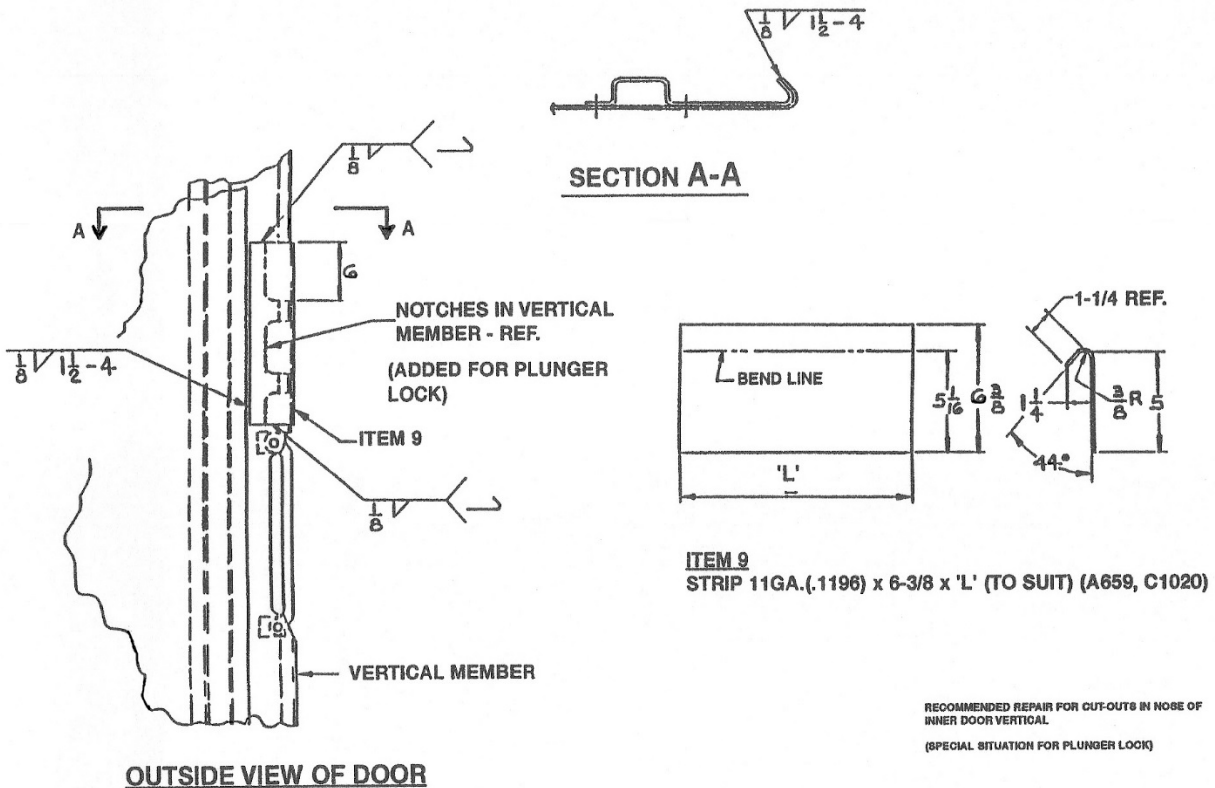

Figure 17
2. Add a patch plate, (Figure 17, Item 9), as shown in "Outside View of Door". The repair plate should extend 6" above the top cutout and as low as the grab iron permits.